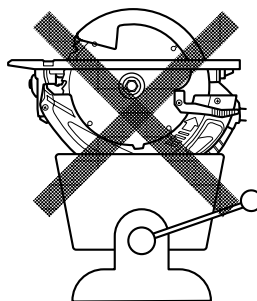

Fig. 7
24. **Never attempt to saw with the circular saw held upside down in a vise.** This is extremely dangerous and can lead to serious accidents. (Fig. 7)